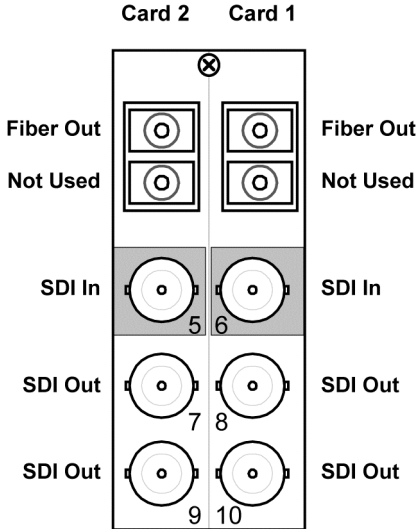

Figure 2.8 Cable Connections for the **RM20-2121-B** Rear Module
- **RM20-2121-B** Split Rear Module — Each 9212-EO occupies one slot and provides one optical output, one SDI input, and two SDI outputs. Refer to **Figure 2.8**.